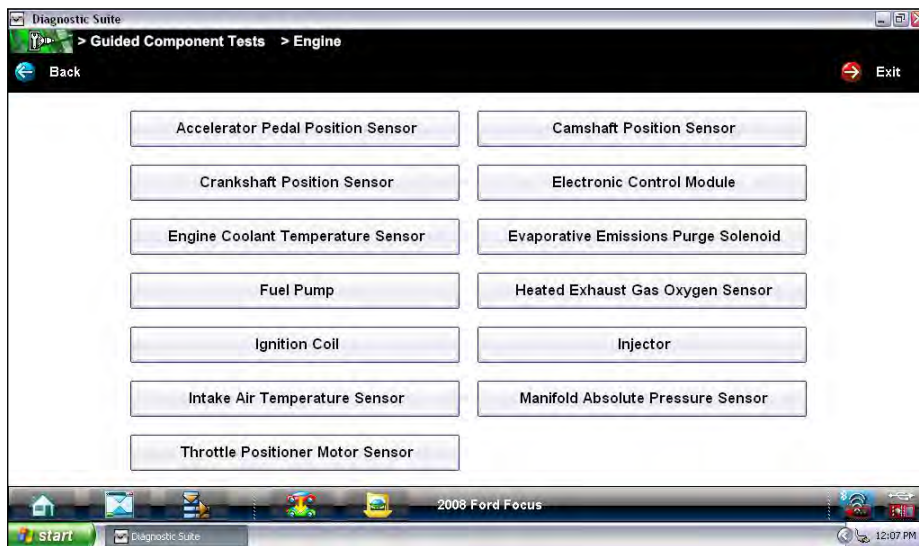

Figure 6-3 Sample available component tests list
- Select **ENGINE** and a component test menu displays (Figure 6-3).